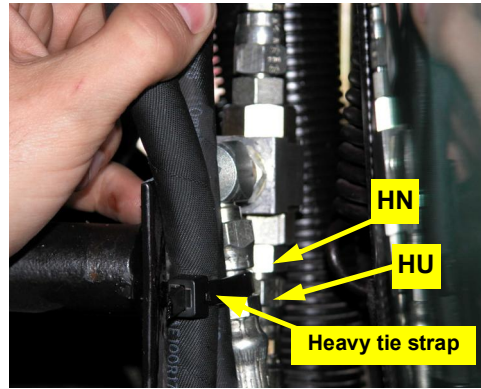

Figure 9a: Connecting the LS port and the shuttle and securing the shuttle assembly
- a. Install the hydraulic hose **HU** between the **LS** port of the hydraulic steering block and the open end of the load sense shuttle assembly (**HN**) installed in step **8** (Figures 9a and 9b). Use a supplied heavy tie strap to secure load shuttle assembly to the tractor framework.